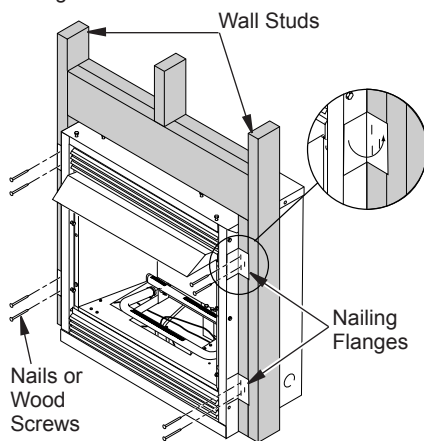

Figure 9 - Attaching Fireplace to Wall Studs
Built-in installation of this fireplace involves installing fireplace into a framed-in enclosure. This makes the front of fireplace flush with wall. An optional trim kit accessory is available (see *Accessories*, page 36). Trim will extend past sides of fireplace approximately 1/2". This will cover the rough edges of the wall opening. If installing a built-in mantel above the fireplace, you must follow the clearances shown in Figure 9, page 11. Follow the instructions below to install the fireplace in this manner.
- Bend four nailing flanges on outer casing with pliers (see Figure 9).